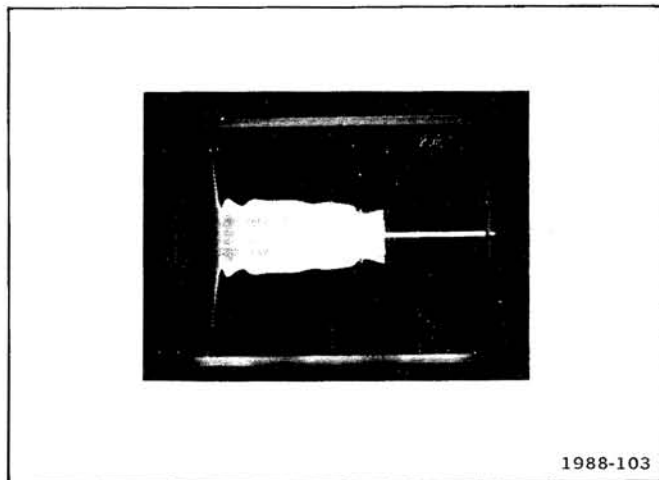

Figure 5-6. Current waveform at T30 showing burst operation at line voltage of about 60 V.
4. If the 7934 continues in the pulse mode or continues to open the line fuse, check the current waveform through T30. To do this, first repeat part 1 of this step. Then connect a current probe from the test oscilloscope to the gray lead that passes through toroid transformer T30. Set the test oscilloscope for a vertical deflection factor of about 1 volt/division and a horizontal sweep rate of 2 milliseconds/division. Connect the 7934 power-cord plug to the variable autotransformer which is set for 0 volt. Turn the 7934 on and slowly increase the variable autotransformer output to about 60 volts. Check for a burst waveform on the test oscilloscope (similar to that shown in Figure 5-6).